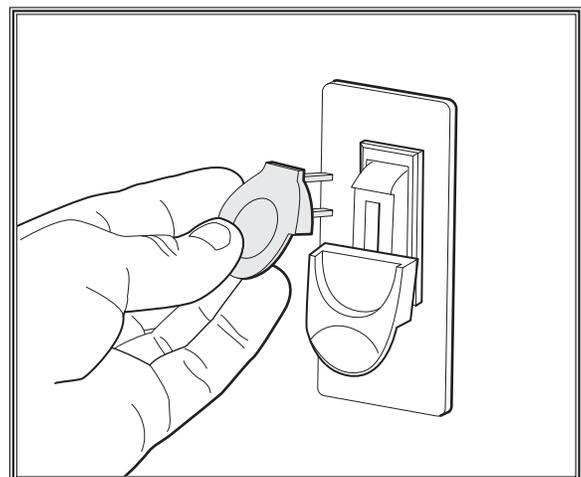

Figure 15. Removing switch key from paddle switch.
7. Remove ON/OFF switch disabling key (see **Figure 15**).